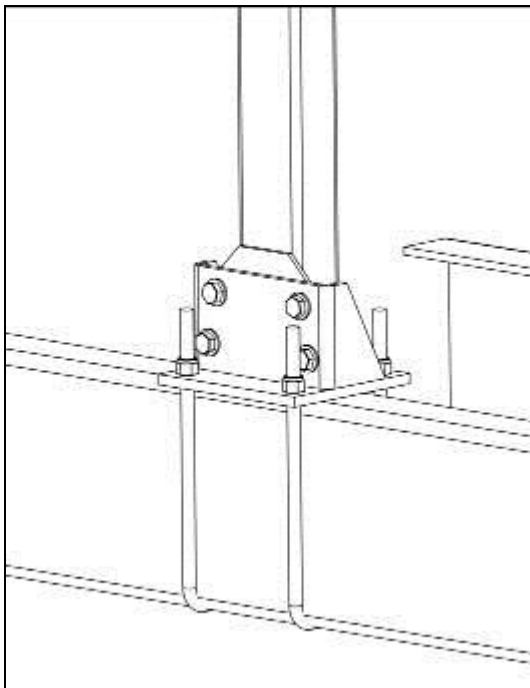

Figure 1
- U-bolt mount which clamps the tower down to the frame (see figure 1)
- 3) Place the tower on the frame rails as shown above in figure 1.